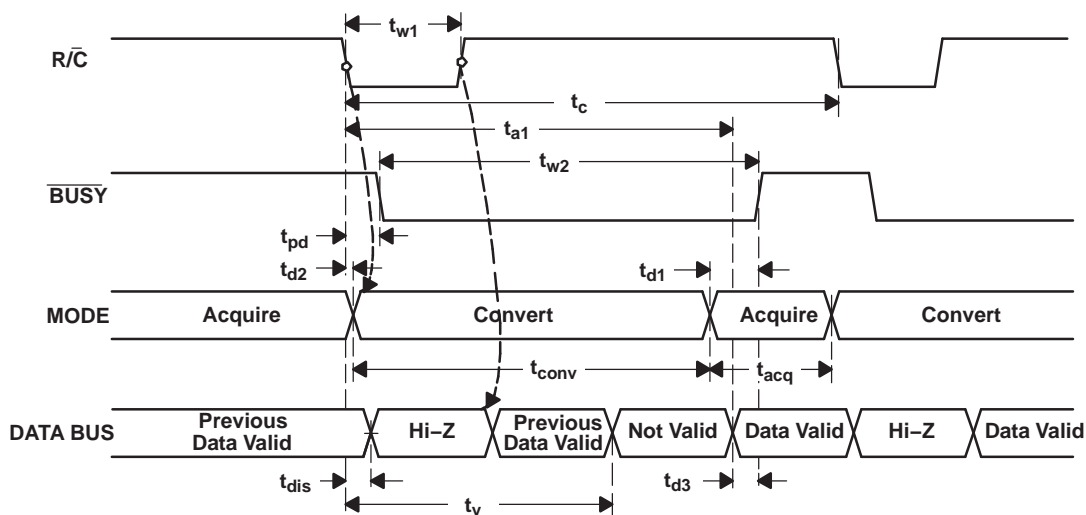
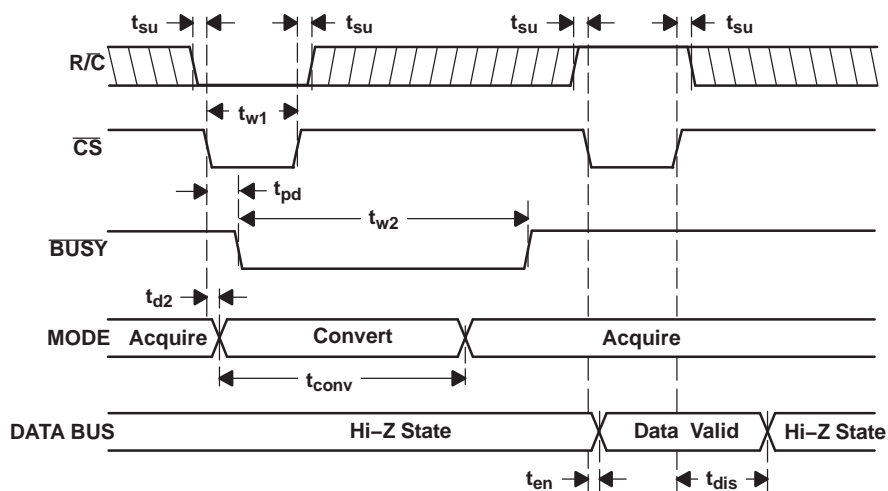
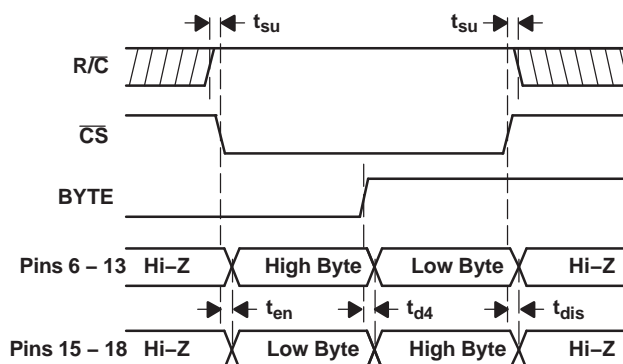

Figure 19. Conversion Timing with Outputs Enabled after Conversion (\overline{CS} Tied Low)
Figure 20. Using \overline{CS} to Control Conversion and Read Timing
Figure 21. Using $\overline{\text{CS}}$ and BYTE to Control Data Bus
The ADS8504 begins tracking the input signal at the end of the conversion. Allowing 4 μ s between convert commands assures accurate acquisition of a new signal. Refer to Table 1 for a summary of \overline{CS} , $\overline{R/\overline{C}}$, and \overline{BUSY} states and Figure 19, Figure 20, and Figure 21 for the timing diagrams.
(1) See Figure 19 and Figure 20 for constraints on data valid from conversion $n-1$.
After conversion n is completed and the output registers have been updated, $\overline{\text{BUSY}}$ (pin 26) goes high. Valid data from conversion n is available on D11-D0 (pins 6-13 and 15-18). $\overline{\text{BUSY}}$ going high can be used to latch the data. Refer to Table 3 and Figure 19, Figure 20, and Figure 21 for timing specifications.
After conversion n has been initiated, valid data from conversion $n-1$ can be read and is valid up to t_2 (2.2 μs typ) after the start of conversion n . Do not attempt to read data from t_2 (2.2 μs typ) after the start of conversion n until $\overline{\text{BUSY}}$ (pin 26) goes high; this may result in reading invalid data. Refer to Table 3 and Figure 19, Figure 20, and Figure 21 for timing specifications.
The number of control lines can be reduced by tying $\overline{\text{CS}}$ low while using the falling edge of $\text{R}/\overline{\text{C}}$ to initiate conversions and the rising edge of $\text{R}/\overline{\text{C}}$ to activate the output mode of the converter. See Figure 19.